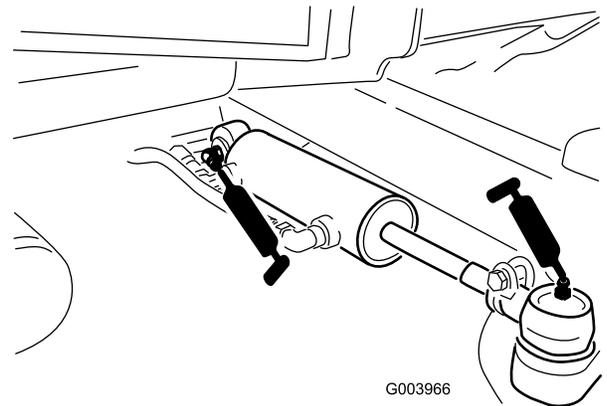

Figure 59
- Steering cylinder ball joints (2) (Figure 59)